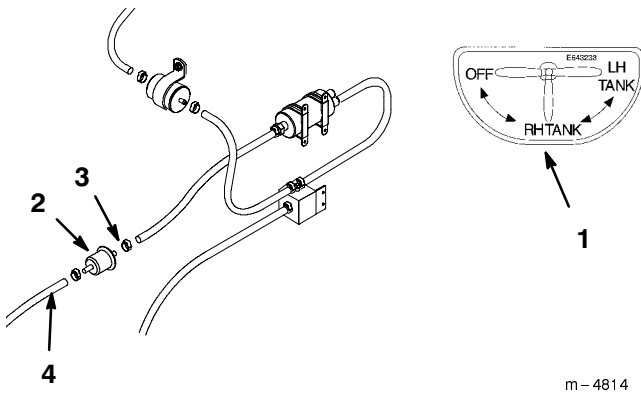

Figure 27
2. Close fuel shut-off valve (Fig. 27).
3. Loosen the hose clamp at the low pressure fuel filter and slide it up the fuel line away from the fuel filter (Fig. 27).
4. Pull the fuel line off low pressure fuel filter (Fig. 27). Open fuel shut-off valve and allow gasoline to drain into a gas can or drain pan.
5. Install the fuel line onto the fuel filter. Install hose clamp close to the fuel filter to secure the fuel line (Fig. 27).